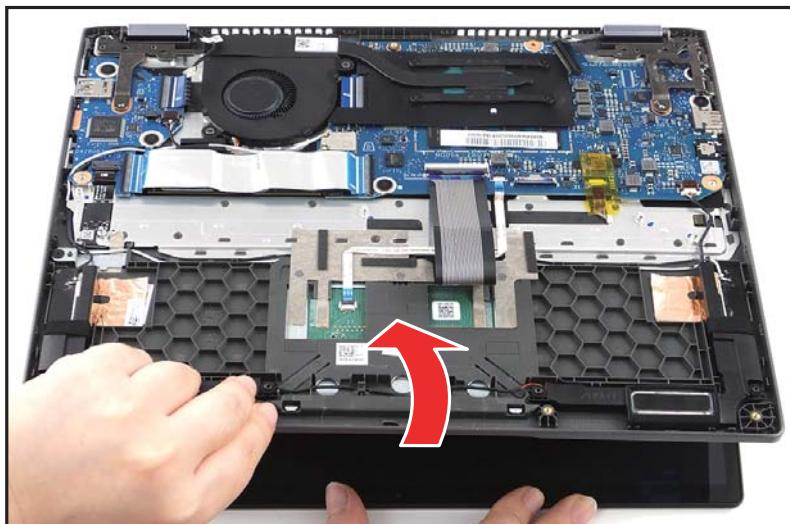

Figure 1-20. LCD Module Removal
5. Lift the top assembly until it is fully open (Figure 1-20).